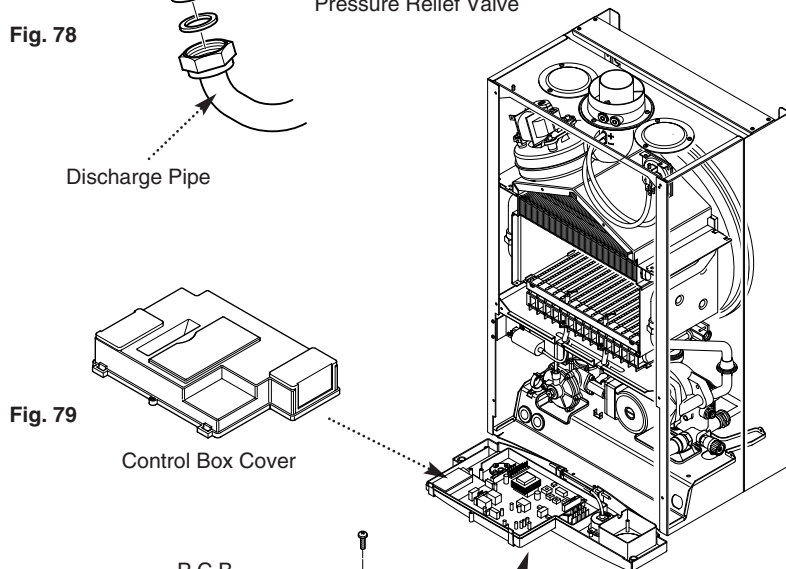

Fig. 79
2. Remove the screws securing the control box cover and release the cover retaining barbs from their slots. Disengage the rear of the cover from the control box hinge pin (Fig. 79).